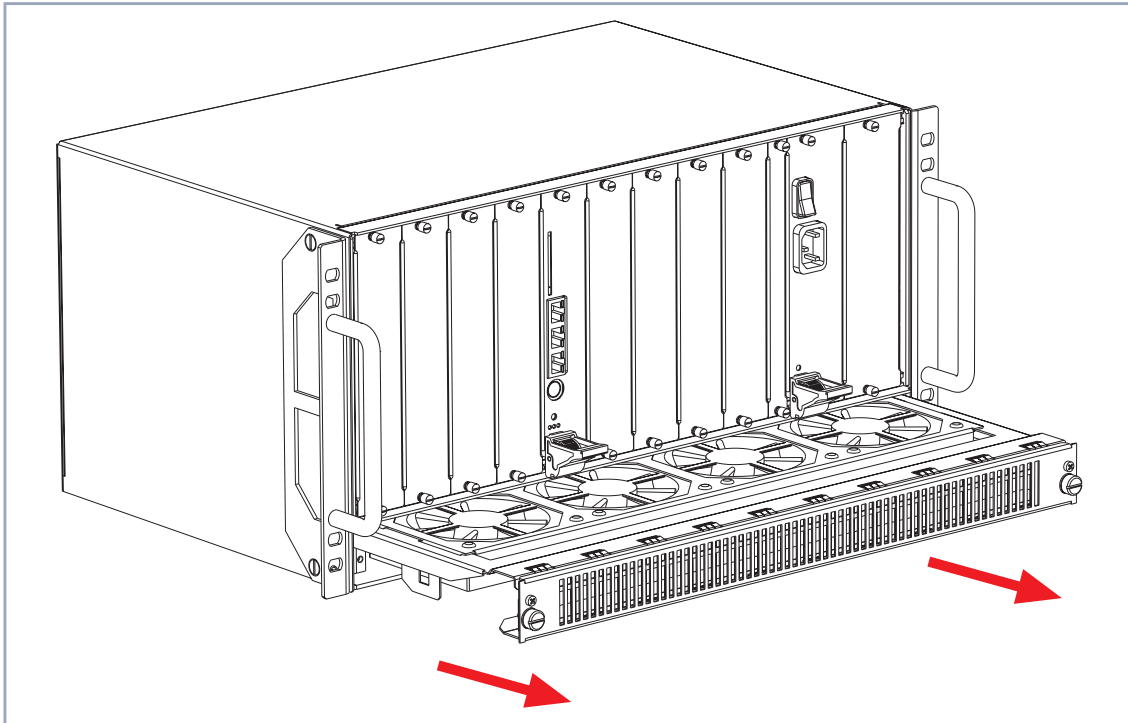

Figure 4-11: Drawing out the fan cassette from the **X8500** case
- Remove the fan cassette from the **X8500** case (see figure 4-11, page 50).
- Draw out the fan cassette from the **X8500** case, as shown in figure 4-11, page 50.